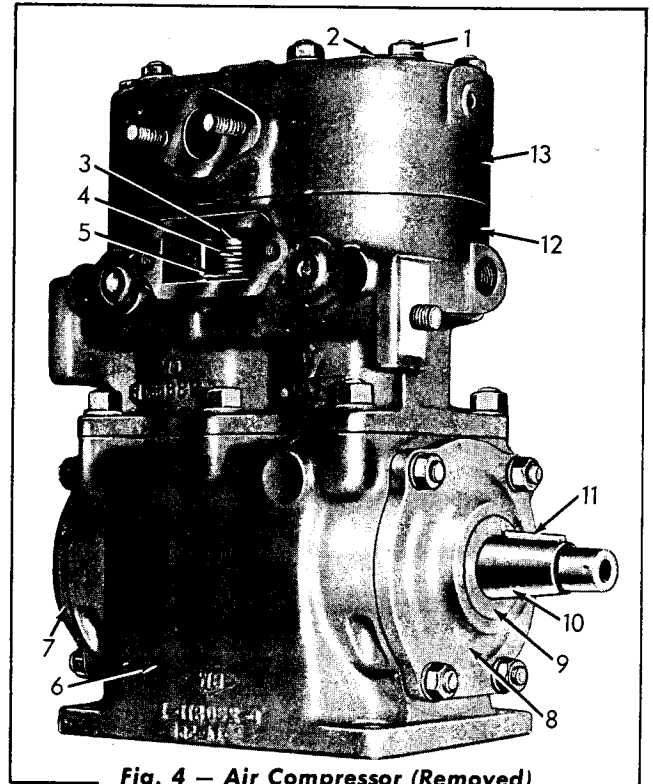

Fig. 4 - Air Compressor (Removed)
A. Air Compressor (Fig. 4)
1. Remove the capscrews that secure the cylinder head to the cylinder block. Remove the cylinder head and the cylinder head gasket (Figs. 4 and 5).
- 10. Remove the capscrews and lockwashers that secure the end covers to the crankcase. Remove the end covers (Figs. 4 and 8). *NOTE: Mark the position of the drive end of the crankshaft in relation to the crankcase before removing the crankshaft from the crankcase.*